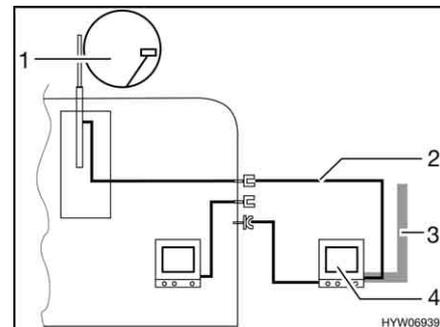

Fig. 177 TV in the awning
- TV inside the awning (Fig. 177,4): Connection to roof antenna (Fig. 177,1) with connection cable (Fig. 177,2)
- TV inside the awning (Fig. 177,4): Connection to external antenna (Fig. 177,3)